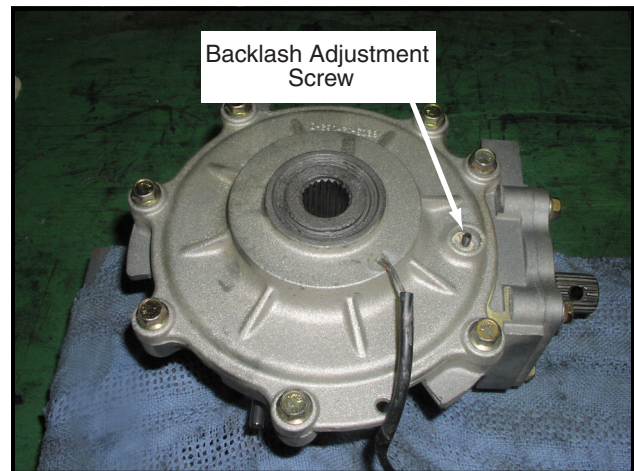

Figure 9-19 Backlash Adjustment Set Screw
1. Locate the backlash adjustment set screw on the right front, coil side, of the differential (**Figure 9-19, Page 9-7**).